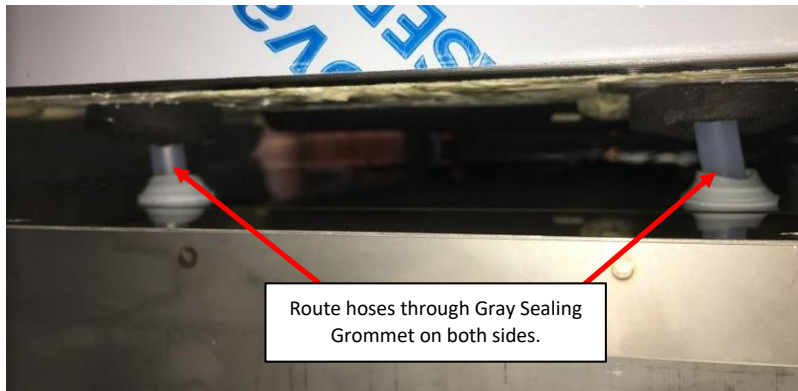

Figure L24: Hoses Inserted in the Gray Sealing Grommet.
- b) Align the two (2) Gray Sealing Grommet (JT-12722) installed in the top two holes of the Rear Enclosure with the two Blue Barrier Hoses installed in the rear bulkhead as per WI-1514-001. **See Figure L24.**